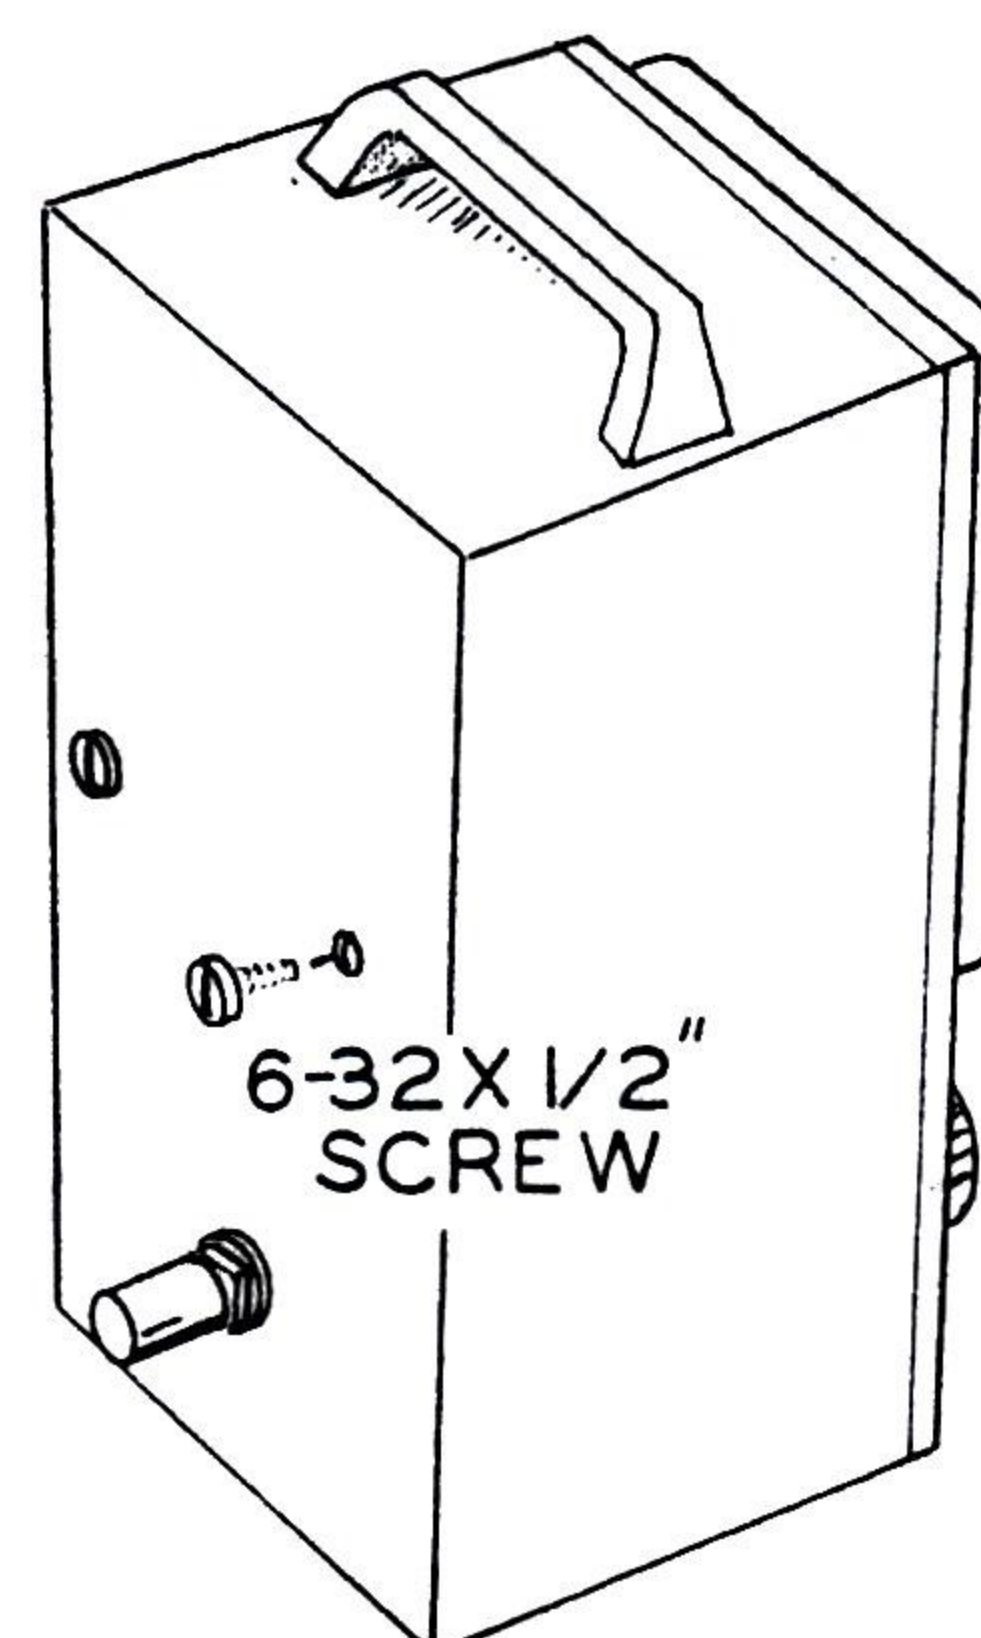

Figure 3
- ( ) Install the VTVM in the cabinet, using two 6-32 x 1/2" screws as shown in Figure 3.